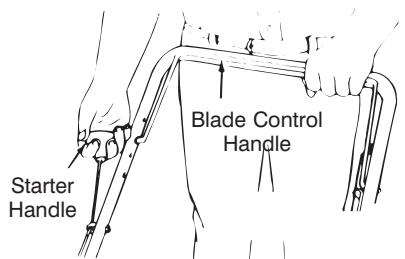

Figure 9
- Standing behind the unit, depress the blade control handle and hold it against the upper control handle as shown in Figure 9.